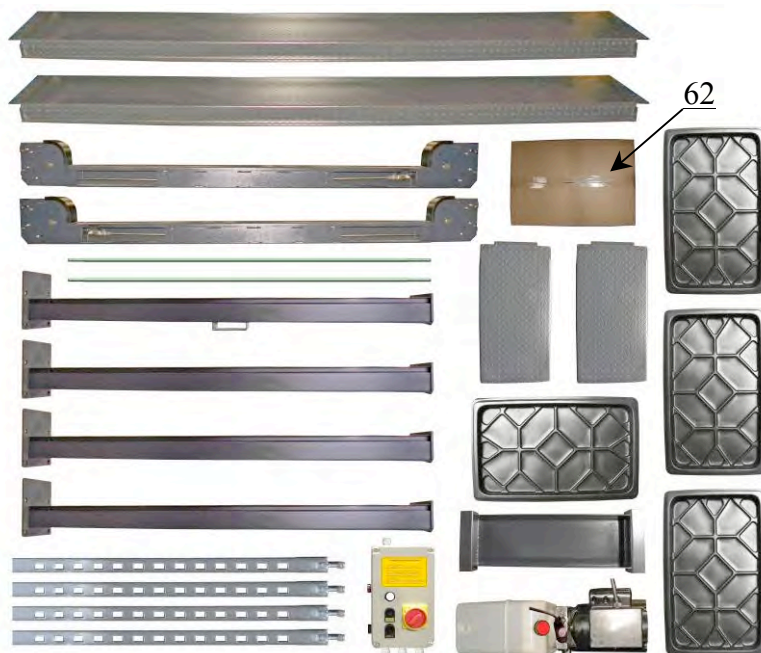

Fig.7
5. Move aside the parts and check the parts according to the shipment parts list (See Fig. 7).